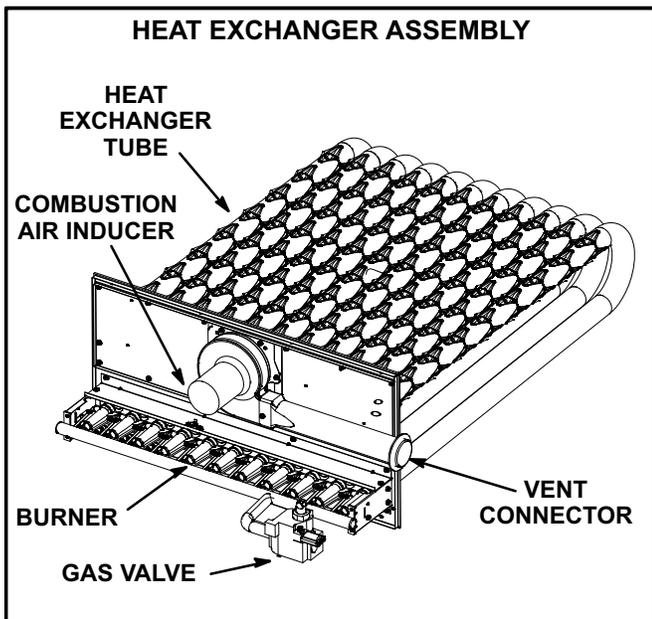

FIGURE 20
- 3- Remove and retain screws securing combustion air inducer to flue box. Remove vent connector. See figure 20.